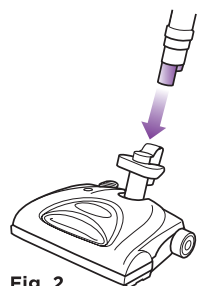

Fig. 2
- 1 Insert the telescopic tube into the power nozzle as far as it will go. (Fig. 2)